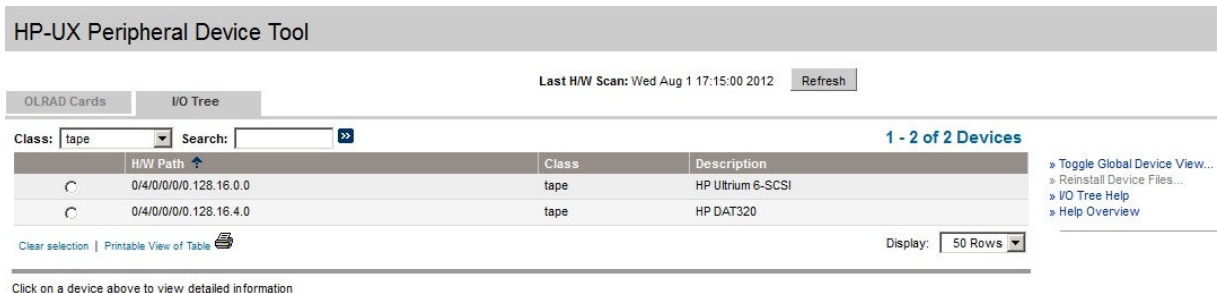

Figure 2: Selecting a tape device to create its device files (Agile View)
3. Select tape from the **Class** drop-down box on the HP-UX Peripheral Device Tool page. Select the tape device (radio button) requiring device files from the resulting list. If device files are not already present, it will be indicated under the Properties header (see Figure 2: Selecting a tape device to create its device files \(Agile View\) on page 10)³.